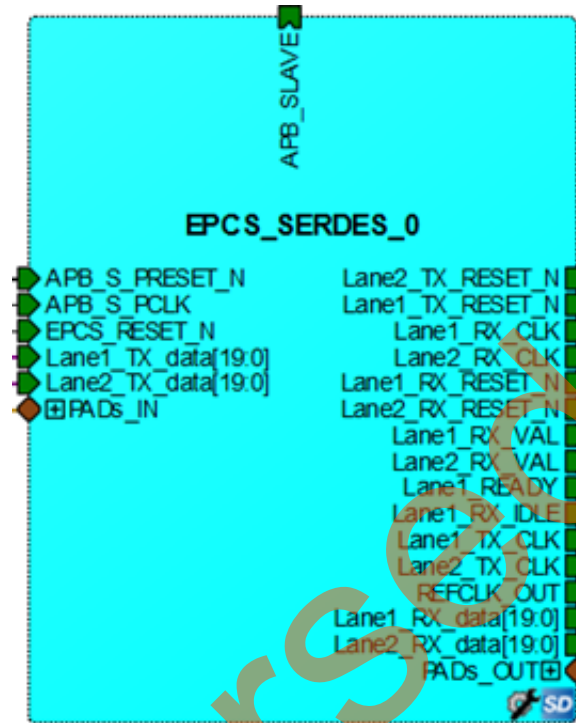

Figure 40 • EPCS_SERDES Component
1. Open the EPCS_Demo_top SmartDesign canvas and drag the EPCS_SERDES component from the **Design Hierarchy** onto the EPCS_Demo_top SmartDesign canvas. It is displayed with the top-level port names on the instance, as shown in Figure 40.